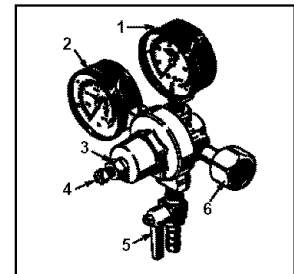

Fig. 12
21. Adjusting the CO2 Regulator: There are two pressure gauges on the CO2 regulator. **See Fig. 12** The upper gauge #1 monitors "LOW" (internal keg) pressure and must be adjusted to the correct operating pressure of 10~12psi/lbs. The lower gauge #2 monitors "HIGH" (CO2 cylinder) pressure and is not adjustable. The high pressure gauge also acts as a fuel gauge to let you know when the CO2 cylinder needs re-filling.
- Using an adjustable wrench, release the adjustment lock nut # 3. **See Fig. 12**
- Using a flat screwdriver, turn the regulator adjustment screw # 4 **See Fig. 12**